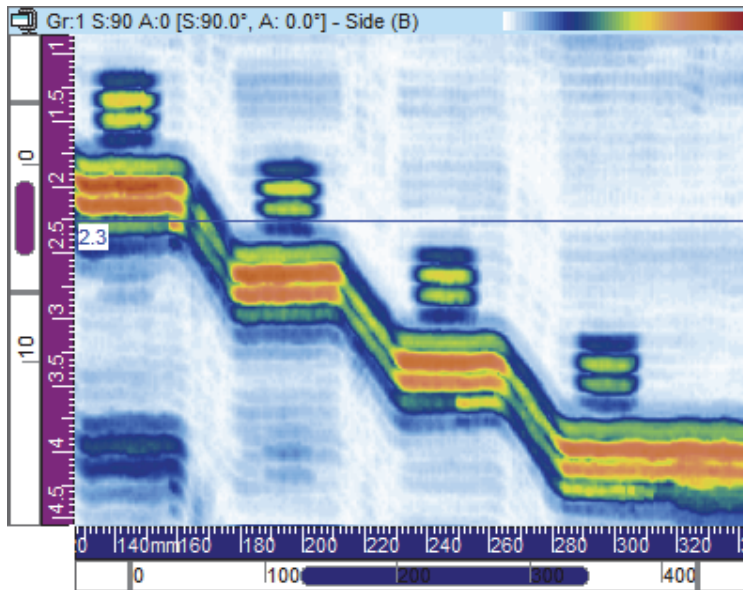

Figure 3-22 Example of Side (B) view
The Side (B) view (Figure 3-22 on page 80) is a two-dimensional graphical representation of the recorded data. One of the axes is the scan axis; the other is the uncorrected ultrasonic (USound) path. The position of the displayed data is related to